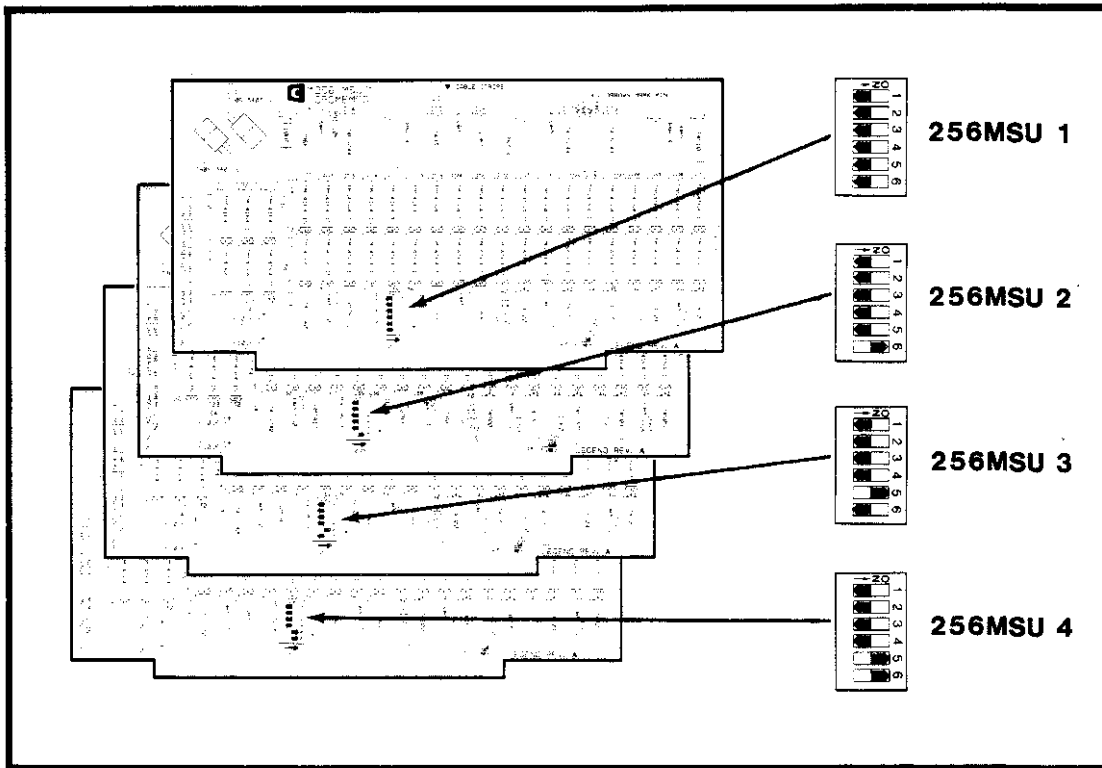

Figure F-6: SWITCH SETTINGS FOR 256MSU BOARDS
**256MSU Board** - This is a Memory Storage Unit with 256K bytes of error-correcting memory. All switches on a single 256MSU board should be OFF. If more than one 256MSU board is used, the switches should be set according to Figure F-6. Use of the 256MSU board requires the MCU board described as follows.